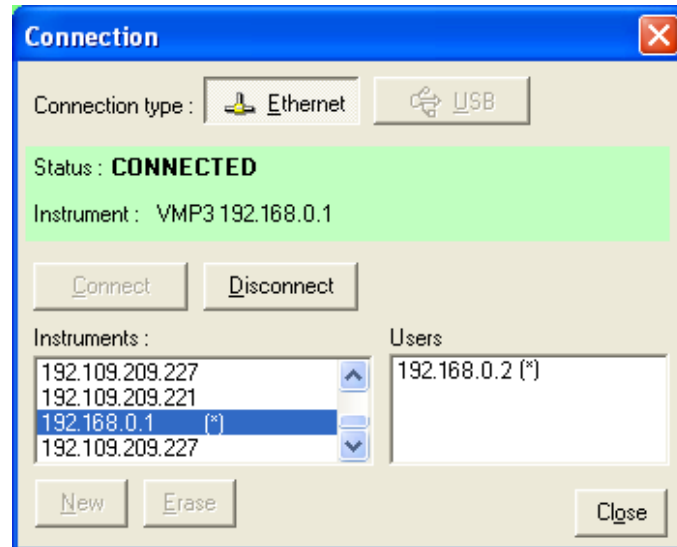

Fig. 42: “Connection” window with the instrument current IP Addresses added to the current devices.
- 7) On the “Device configuration” window (Fig. 42) choose your instrument’s IP Address and click on “Connect”. Then “CONNECTED” is displayed. The user can close the window.